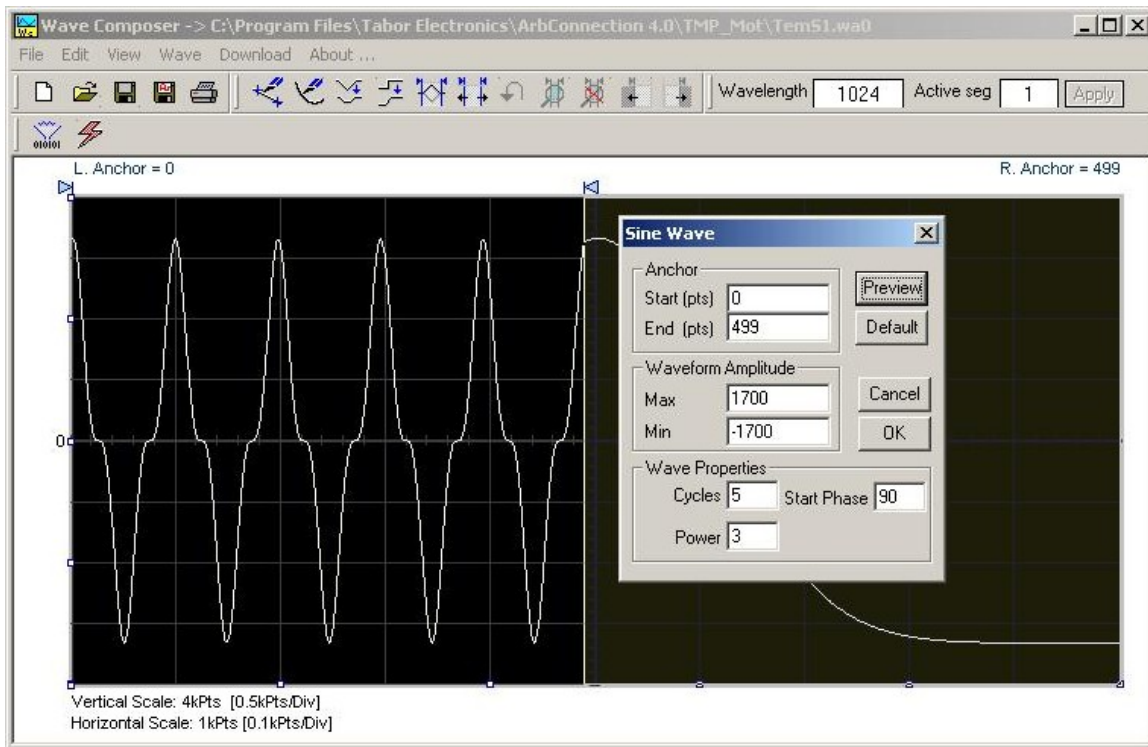

Figure 4-15, Generating Distorted Sine waves from the built-in Library
You can create any waveform from the built-in library using the Wave command. Clicking on one of the Wave options will open a dialog box. An example of the Sine waveform dialog box is shown in Figure 4-15. This dialog box is representative of the rest of the waveforms, so other waveforms will not be described.
Use the following procedure to create sine waveforms from the built-in library. Click on Wave, then sine... the dialog box as shown in Figure 4-15 will appear. You can now start programming parameters that are available in this box.
- 2) You can also place your anchors in a more precise manner from the waveform library by programming the start and end points for the waveform. An example of anchor placement using the sine dialog box is shown in Figure 4-15.